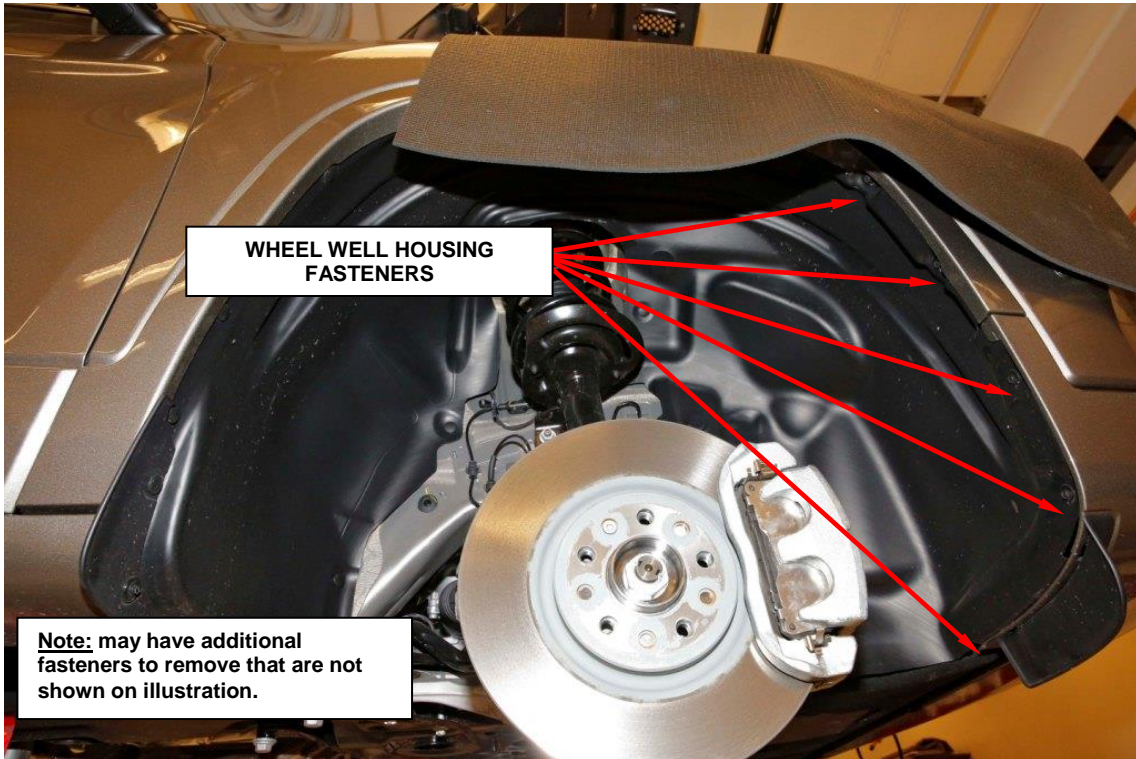

Figure 16 – Right Front Wheel Well
- 47. Remove the right front wheel and tire assembly and partially remove the front of the wheel well housing (Figure 16).